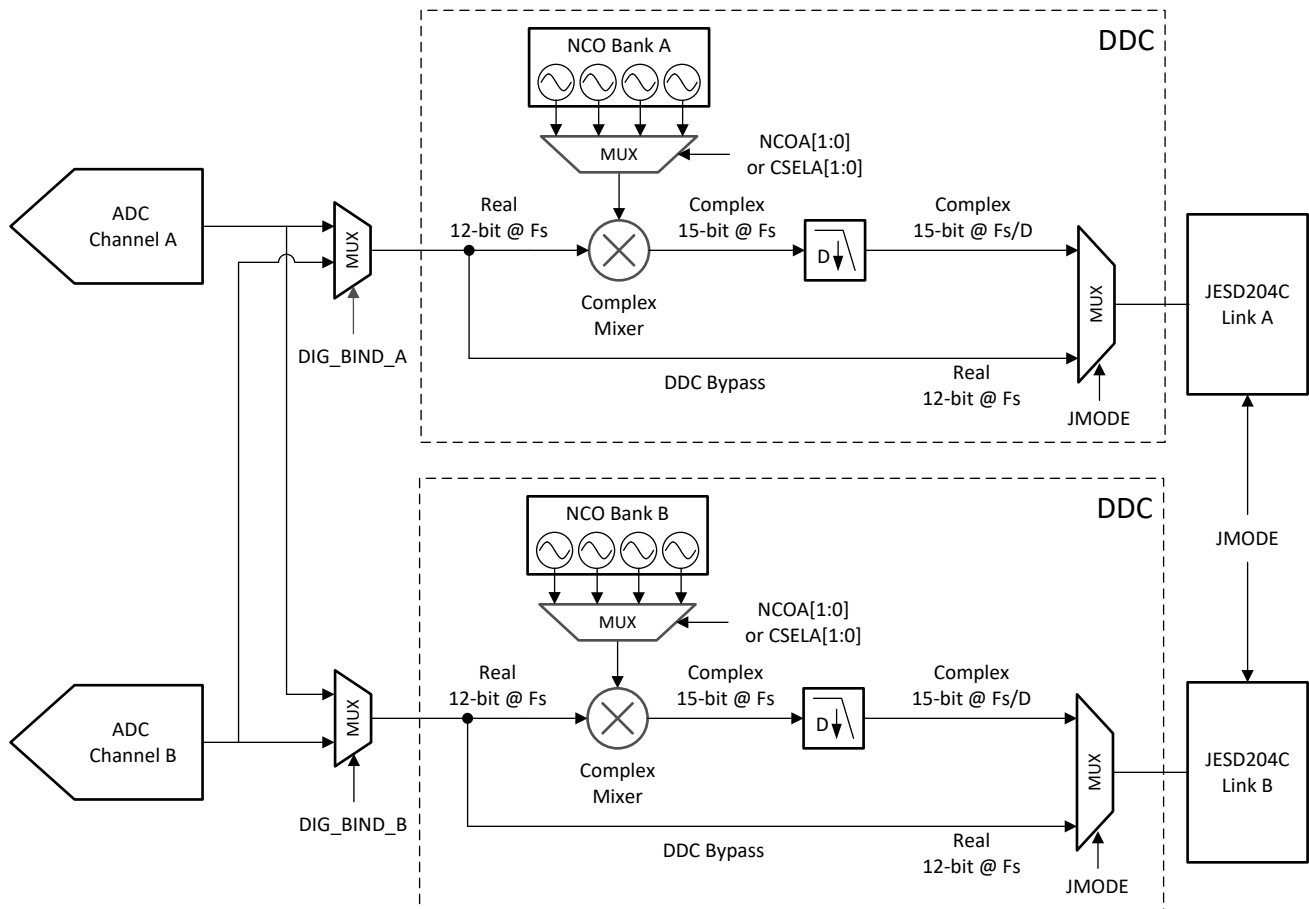
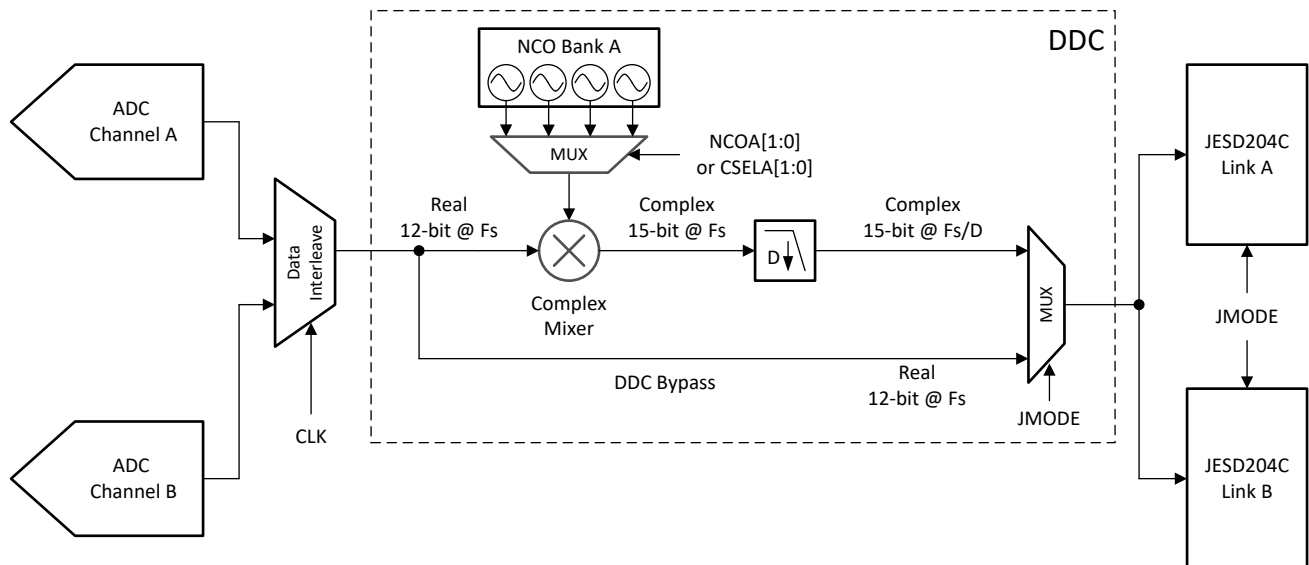

Figure 7-8. Digital Down Conversion Block in Dual Channel Mode
Figure 7-9. Digital Down Conversion Block in Single Channel Mode
After converting the analog voltage to a digital value, the digitized sample can either be sent directly to the JESD204C interface block (DDC bypass) or sent to the digital down converter (DDC) block for frequency conversion and decimation. The DDC block can be used in both dual channel mode and single channel mode. Frequency conversion and decimation allows a specific frequency band to be selected and reduces the amount of data sent over the data interface. The DDC first mixes the desired band to complex baseband (0 Hz) by performing a complex mixing operation using the numerically-controlled oscillator (NCO) as the local oscillator (LO). The DDC then low-pass filters the baseband signal to remove unwanted frequency images and any signals that may potentially alias into the desired band. It finally decimates (down samples) the data to reduce the data rate. Note that the filtering and decimation operations are actually performed as a single operation in the device. The DDC is designed with sufficient precision such that the digital processing does not degrade the noise spectral density (NSD) performance of the ADC. Figure 7-8 illustrates the DDC block in the device in dual channel mode while Figure 7-9 shows the DDC block of the device in single channel mode. In dual channel mode, the input data for each DDC can be selected to come from either ADC channel A or ADC channel B by using the DIG_BIND_x SPI registers. Channel B has the same structure with the input data selected by DIG_BIND_B and the NCO selection mux controlled by pins NCOB[1:0] or through CSELB[1:0]. Only one DDC is available for use in single channel mode.